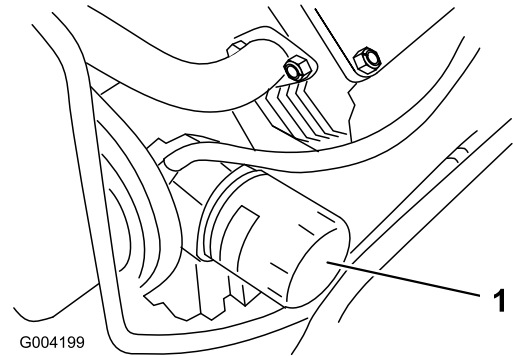

Figure 34
3. Remove the old filter (Figure 34) and wipe the surface of the filter adapter gasket.